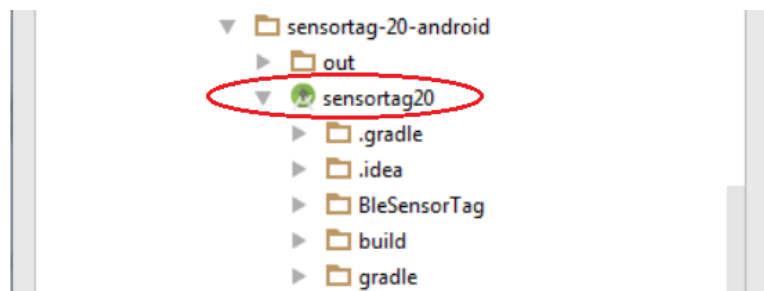

Figure 47, sensortag project.
- g. Expand sensortag-20-android folder and select the sensortag-20-android project (Figure 47). Click OK.